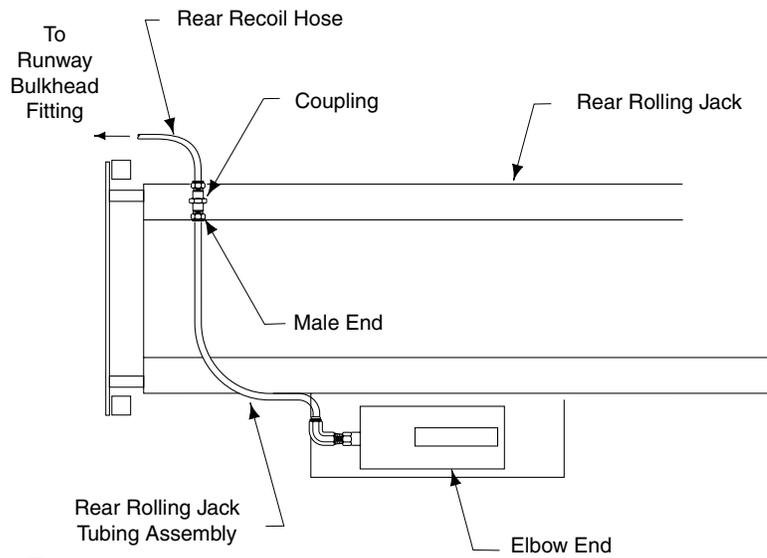

Fig. 35 REAR ROLLING JACK TO RECOIL AIR HOSE
- C. Connect one end of provided rear recoil hose to bulkhead T-fitting at midpoint of runway. Connect other end of recoil hose to coupling welded on rolling jack, Fig. 35 and 37.
- D. Connect elbow end of rolling jack tubing assembly to air pump and male end to the coupling, Fig. 35 and 37.